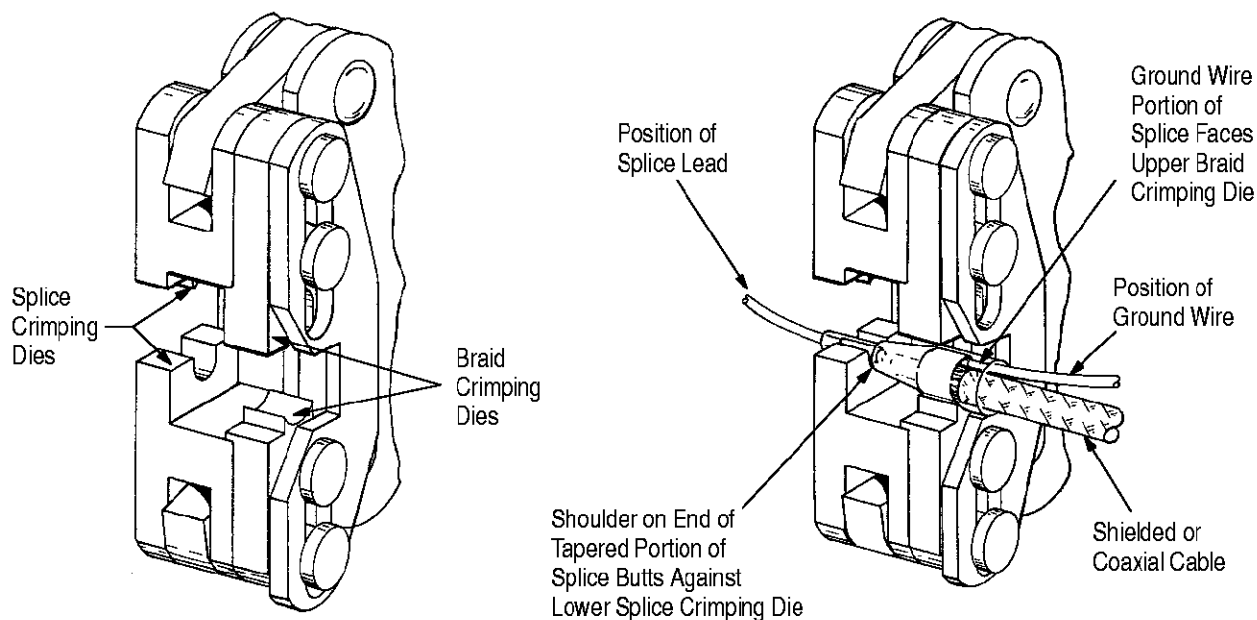

Figure 4
To crimp the splice assembly, refer to Figure 4 and proceed as follows:
2. Position the splice assembly in the splice and braid crimping dies, as shown in Figure 4. Small shoulder on tapered end of splice should butt against lower splice crimping die.